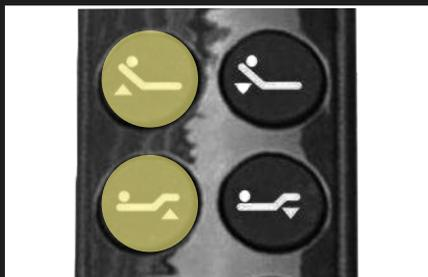

Figure 4
Plug (E) Power Cord into a grounded electrical outlet. Using (A) Wireless Remote, push the HEAD UP button, FOOT UP button for a momentary test of the remote. (See Figure 4.)